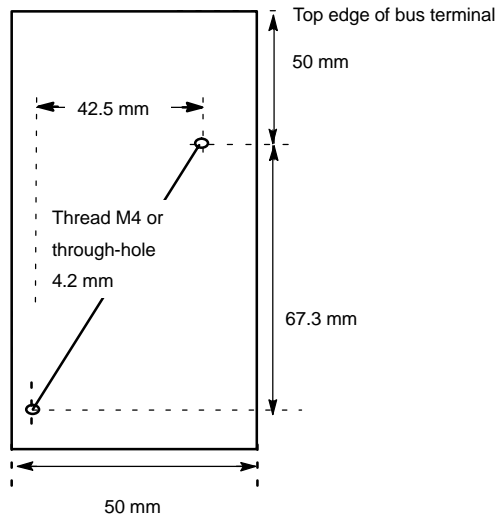

Figure 4-31 Drilling Diagram for the Bus Terminal
- By screwing the unit to a mounting plate using two fillister head screws. Figure 4-31 shows the drilling diagram for mounting the unit.
- Wall mounting (brick, concrete). Fittings required: 2 x 5 mm plugs, 2 round head wood screws size 3.5 mm and 2 washers 4.3 mm inner diameter. The holes must be drilled as shown in Figure 4-31.